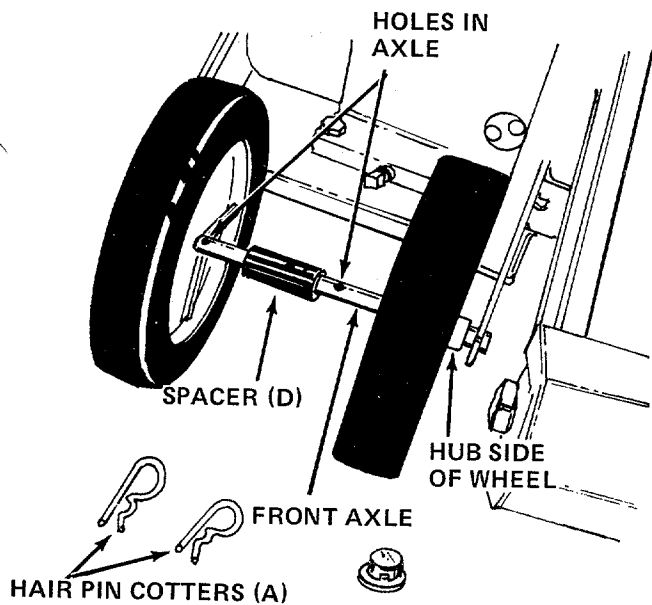
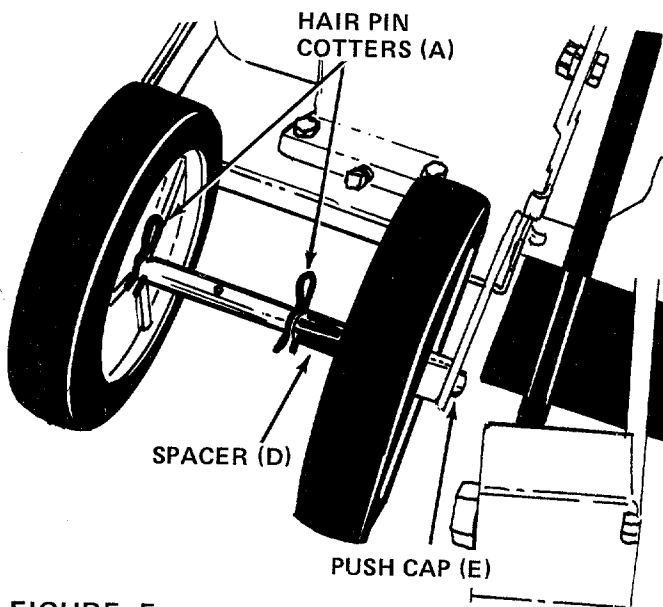

FIGURE 4
FIGURE 5
- Starting on the right side of the edger, place the axle through the support arm on the frame. Then place axle through one wheel so the hub of the wheel is to the outside of the unit. Next place axle through spacer (D), the other wheel (hub to the outside of the unit) and through second support arm. See figure 4. Secure with push cap (E) by tapping it on with a hammer. See figure 5. It is necessary to hold a block of wood or a second hammer against the push cap on the other side of the axle.
- Secure the front wheels and axle in position using two hairpin cotters (A). See figure 5.